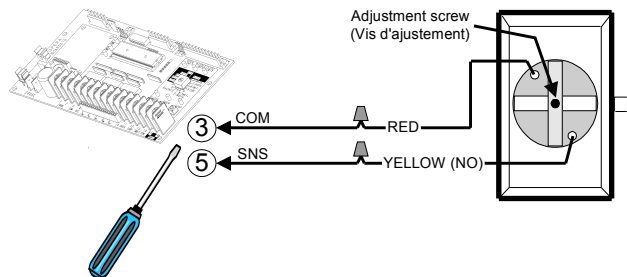
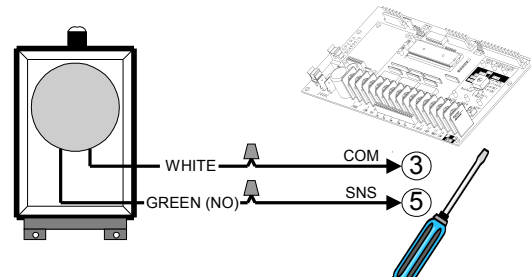

Figure 31 - AIRSWITCH 001 / 007
Figure 32 - AIRSWITCH 009
3. Use a coil cord or take-up reel to connect the air switch to the operator terminals. Install electric wires according to Figure 31 or Figure 32.